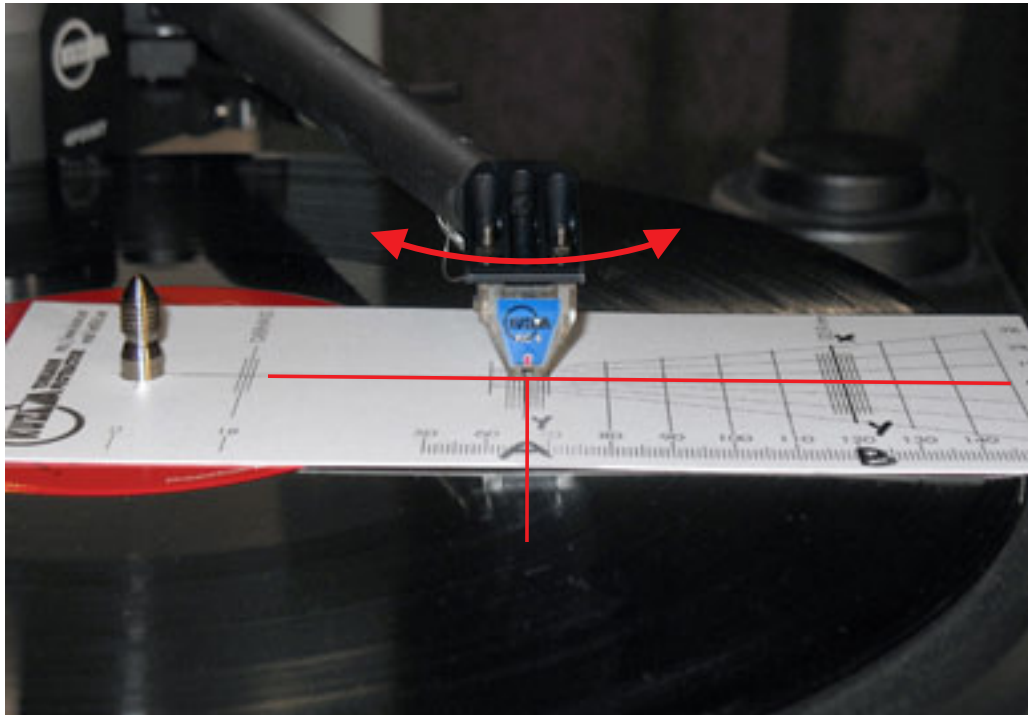

Fig. 27. Alignment at intersection A (inner null line: 'Y-X' and zero line)– cartridge rotation
### 1. Alignment at intersection A Fig. 27 & 30
### **3. Repeat alignment at intersection A** *Fig. 27*
Again place the tip (stylus) precisely at intersection A. If the cantilever is not parallel with the 'Y–X' line, then the body of the cartridge will have to be again rotated slightly and then checked again at B. Fig. 27.
### **5. Repeat alignment at intersection A** *Fig. 27*
- a) **A:** Put the stylus tip at the intersection A of zero line and 'Y–X' line and, by cartridge body rotation, align the cantilever along the 'Y–X' line. Fig. 27 & 30